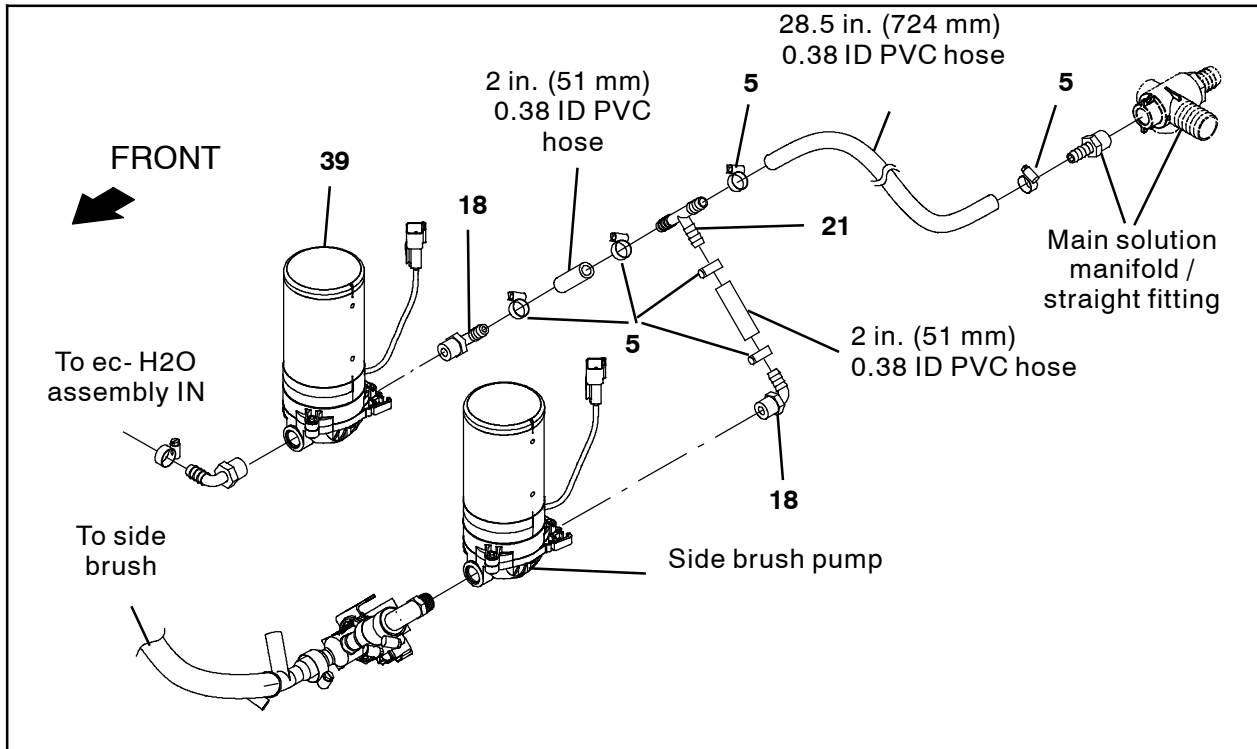

**FIG. 37**
36. Cut end from the side brush manifold and use one hose clamp (5) to connect the plastic straight fitting (9) to the side brush manifold. (Fig. 37)